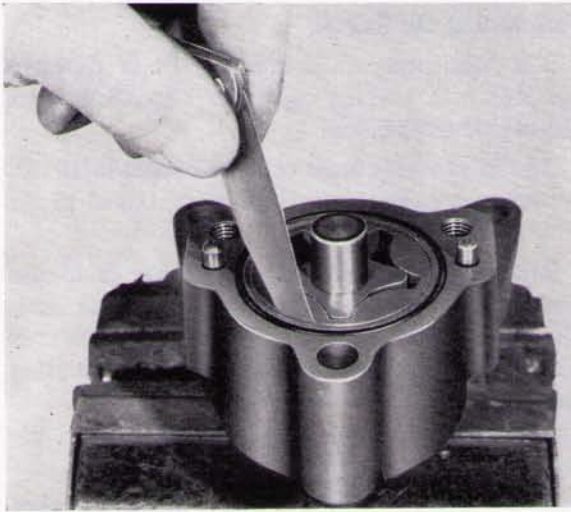

Fig. P.8.
3. Check the clearance between the driven rotor and the pump body, see Fig. P.8. If the clearance exceeds 0.010 in., renew the pump.